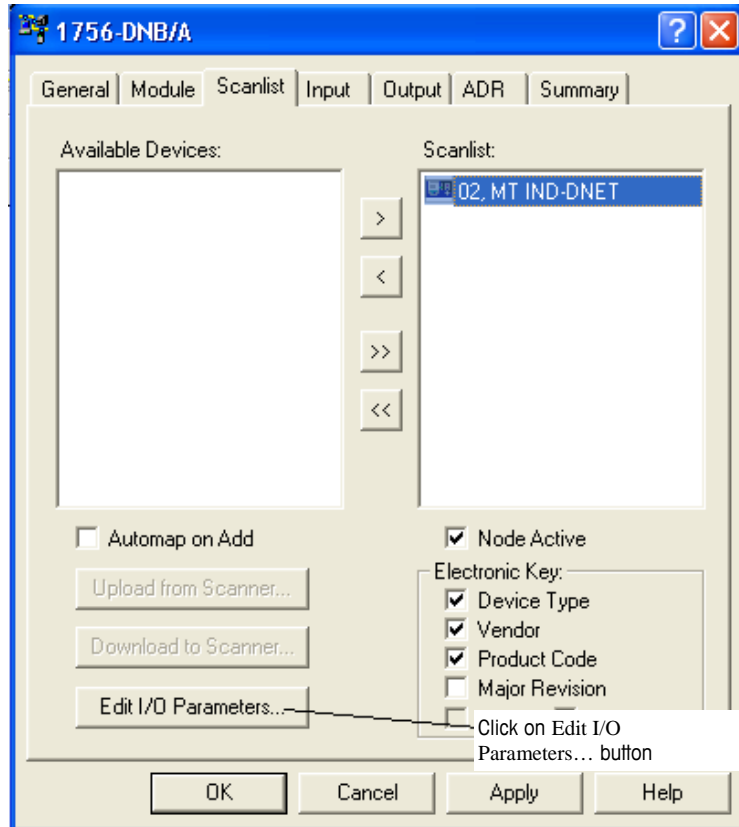

Figure 5-24: IND Terminal Added to Scanlist
8. Highlight the IND Terminal (MT IND-DNET) and left-click to add it to the Scanlist. Once the IND Terminal is added, it will appear in the right pane (Figure 5-24). Click OK.